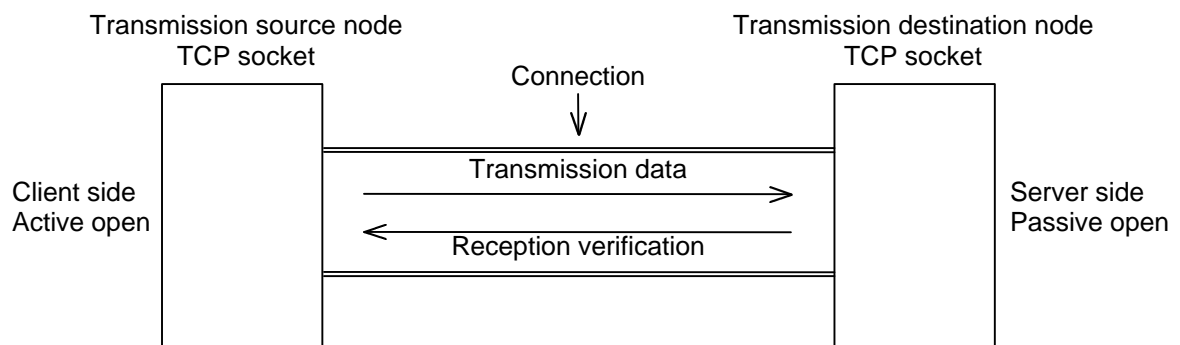

Figure 6.3 TCP Socket (Connection)
b. TCP socket interface (See figures 6.3 and 6.4.)